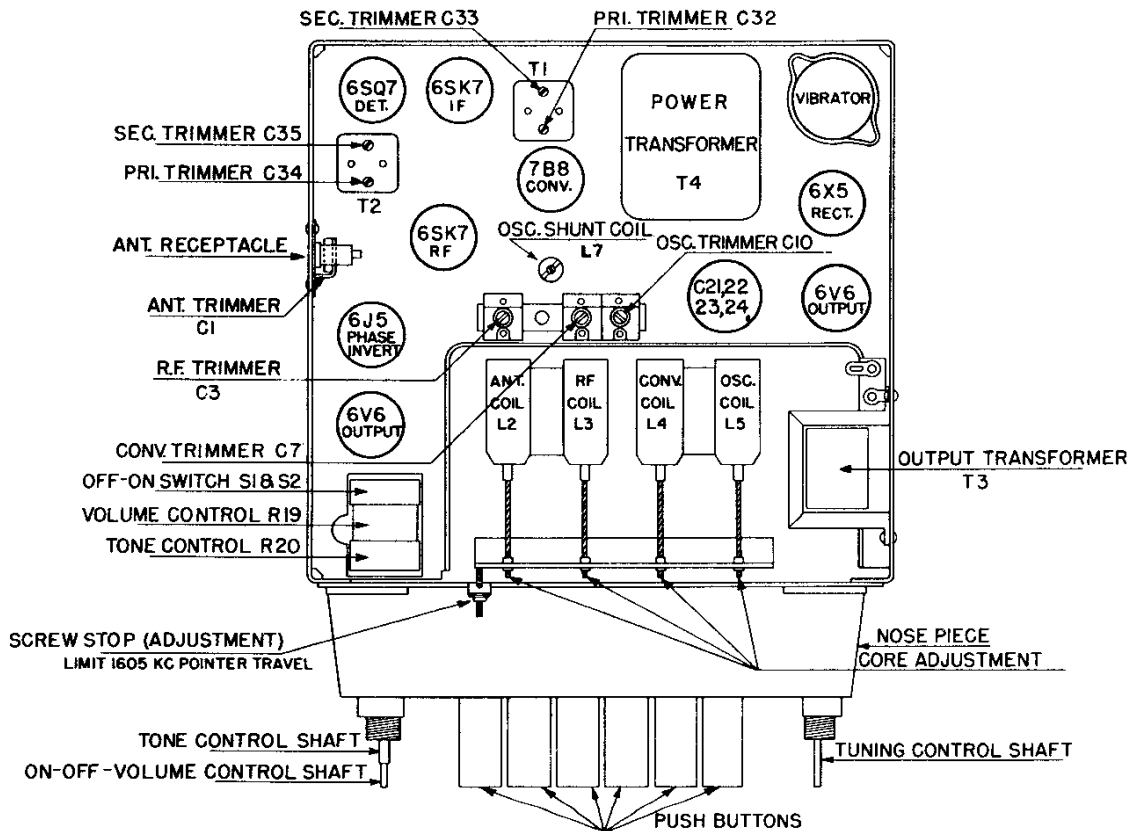

Fig. 8. Top View of Chassis
4. Reference is made to Figures 8 and 9 for trimmer locations.